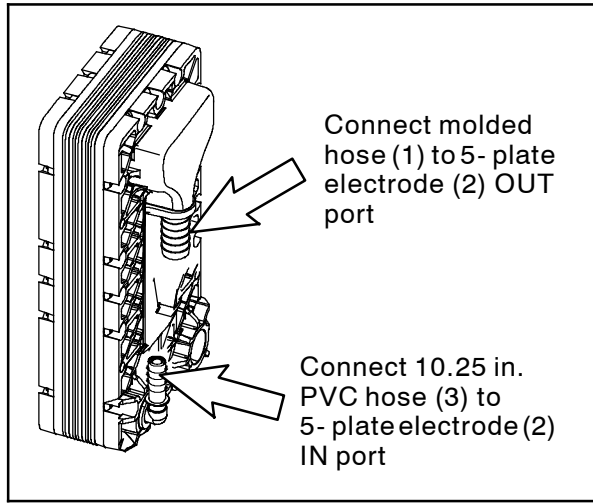

FIG. 2
11. Use saved clamp to connect the 10.25 in. PVC hose to the 5- plate electrode (2) IN port. (Fig. 2)
12. Use a hose clamp (4) to connect the molded hose (1) to the 5- plate electrode (2) OUT port. (Fig. 2)